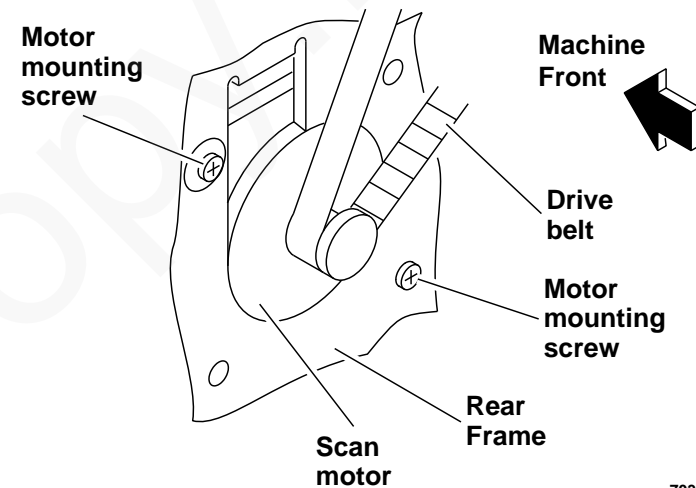

Figure 21. Scan motor removal
- d. Loosen two motor mounting screws on rear frame (Figure 21).